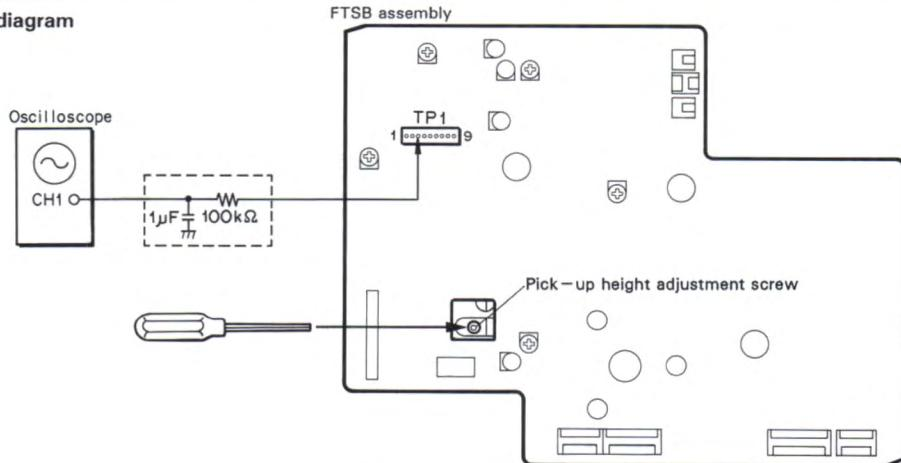

Fig. 3-1
- Perform the level adjustment by changing the screen to the service mode and confirming that the tilt function is OFF. Move the tilt motor UP/DOWN by using the [SKIP REV/FWD] key on the remote control unit so that the focus return voltage described above becomes the same value as the inside and outside of the disc. (Fig. 3-1)